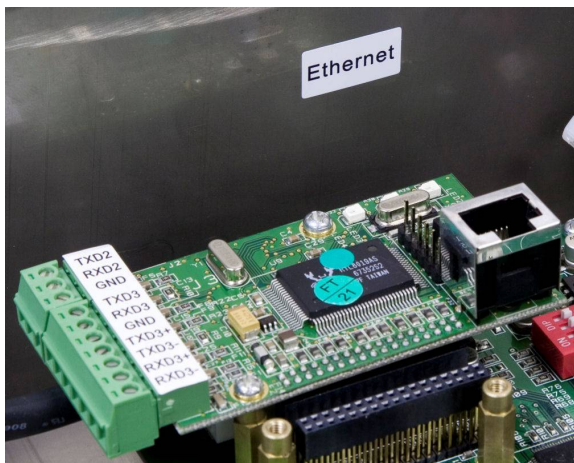

Figure 3-16: Ethernet Label Position
- If installing the Ethernet option, an Ethernet identification label is provided in the kit. This label can be adhered to the ACM500 enclosure near the Ethernet connector, as shown in Figure 3-16.
- If installing the EtherNet/IP option, an EtherNet/IP PLC label is provided for convenience in the kit. The label can be applied to the ACM500 enclosure near the EtherNet/IP connector, as shown in Figure 3-16.